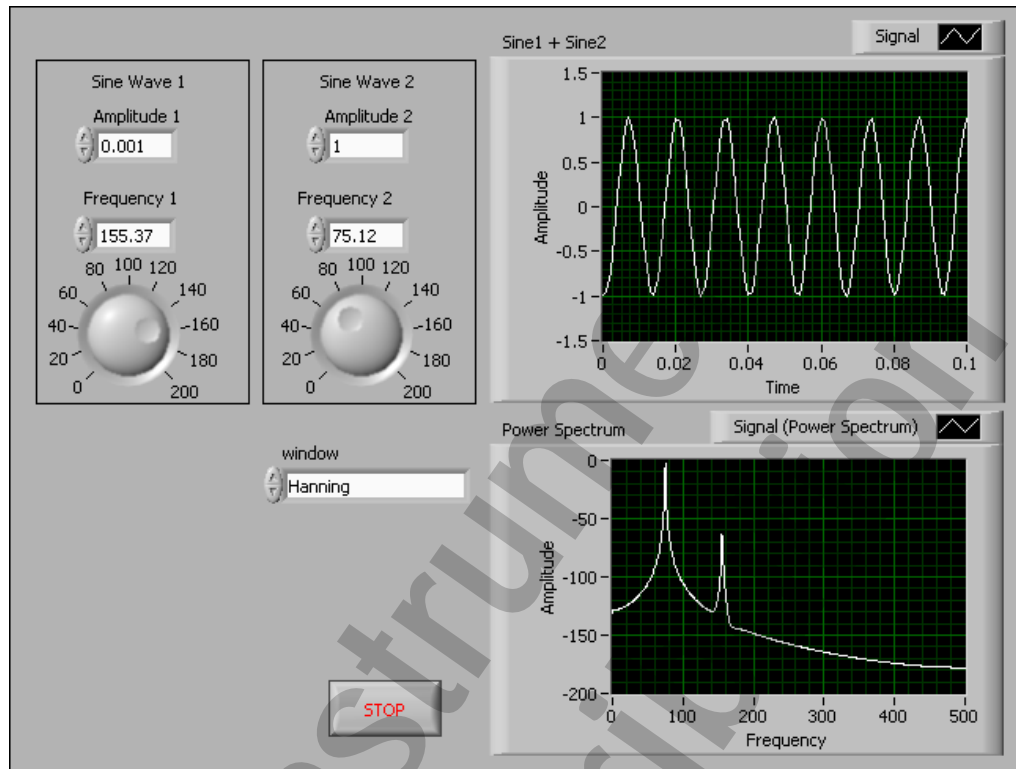

Figure A-6. Window Comparison VI Front Panel
- Right-click the dB On (F) input and select **Create»Constant**. Set the constant to **True**.
- Right-click the restart averaging (F) input and select **Create»Constant**. Set the constant to **True**.
2. Arrange the front panel as shown in Figure A-6.